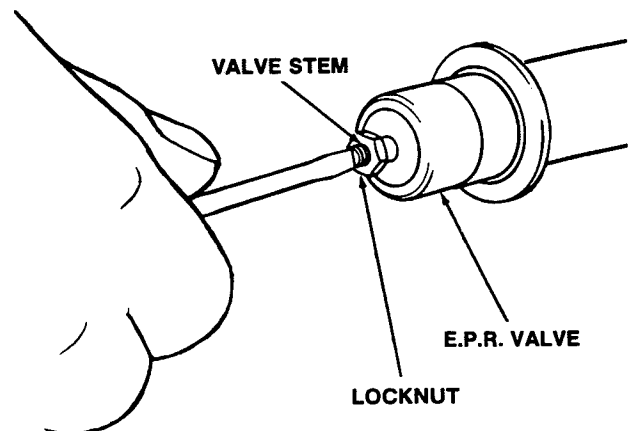

Figure 41. E.P.R. Valve Adjustment
6. Remove the right side panel, loosen the locknut on the E.P.R. valve and, using a small screwdriver, turn the valve stem 1/4 (90°) turn counterclockwise for more cooling or clockwise for less cooling (Fig. 41).